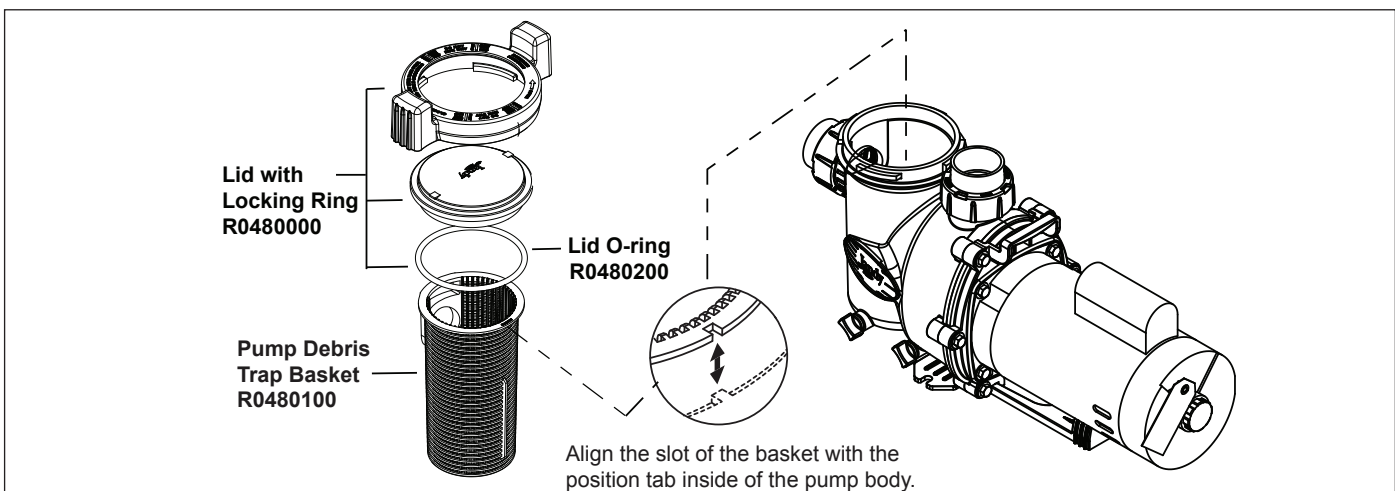

Figure 8. Lid with Locking Ring, O-ring, and Pump Debris Tray Basket
1. Refer to Figure 8 and the associated parts list to identify the parts included in each replacement kit.